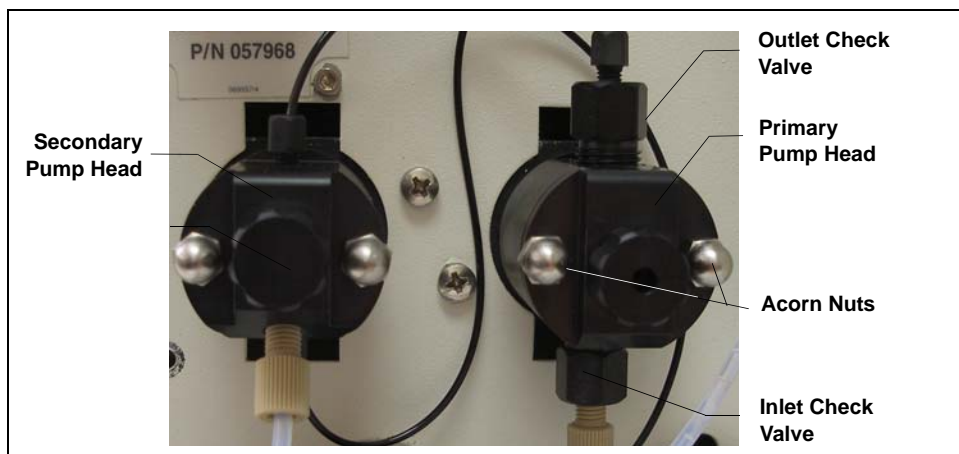

Figure 3. Pump Heads (Dionex ICS-1100/1600/2100 Pump Shown)
1. Rinse the pump flow path with deionized water. Direct the flow to waste by opening the waste valve on the secondary pump head (see Figure 3). To open the valve, turn the knob one-quarter to one-half turn counterclockwise.
2. Disconnect the tube fittings from the inlet and outlet check valve assemblies on the primary pump head (see Figure 3).
3. Use the 1/4 x 5/16-inch wrench (P/N 014605) to remove the two acorn nuts (see Figure 3) from the pump head.